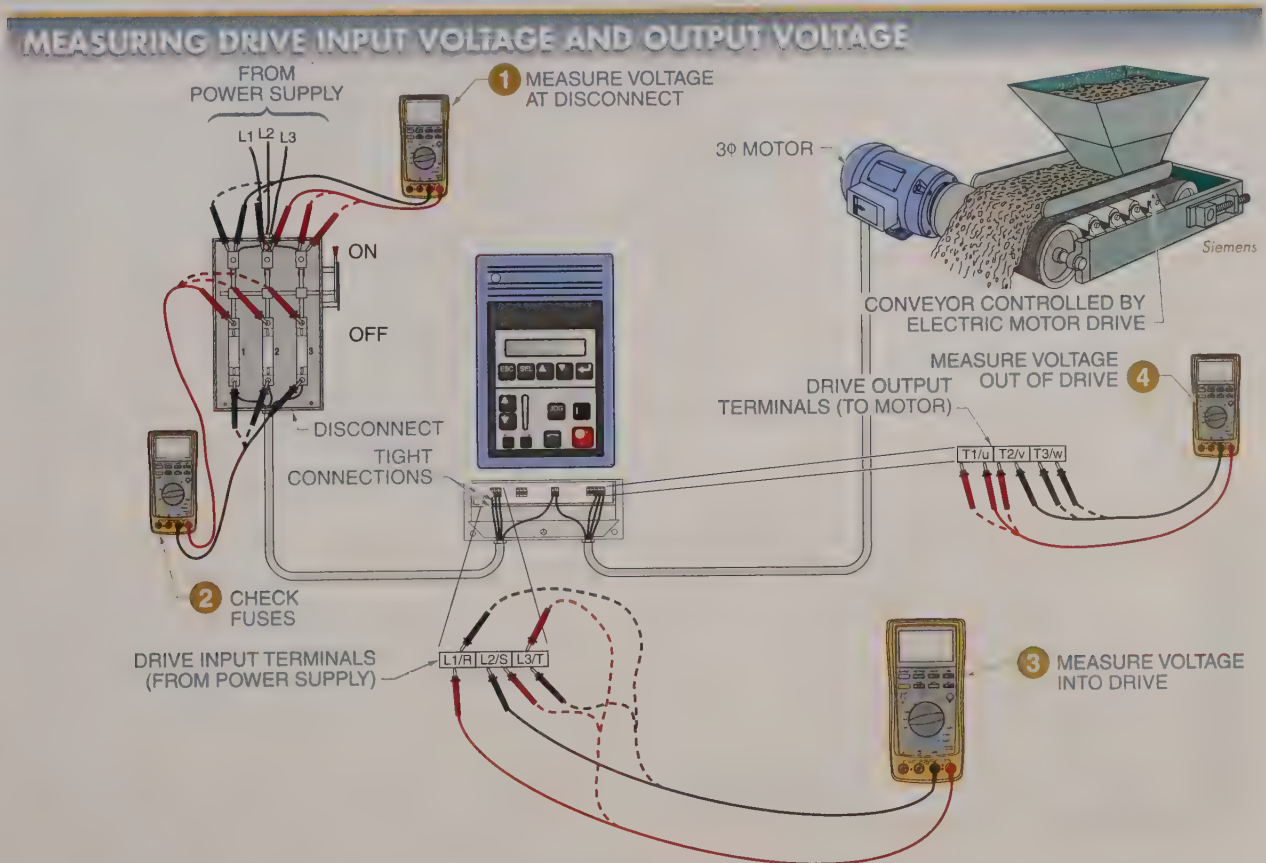

Figure 26-38. Voltage measurements are taken to establish that the voltage is present and at the correct level.
1. Measure the voltage at the disconnect. With the power ON, measure the voltage between each power line (L1-L2, L2-L3, and L1-L3). The voltage between the power lines should be within 2% (2 V per 100 V). If the power lines are not within 2%, there is a power supply problem. See Figure 26-38.